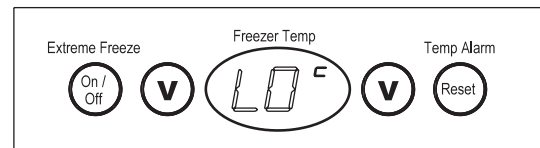
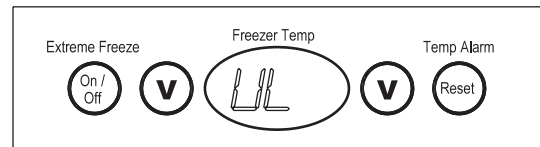

Figure 5
Figure 6
Press and hold the ALARM RESET key until the control panel beeps to activate or deactivate the Display Lockout feature which prevents the user from accidentally changing the temperature and extreme freeze settings. "LO^C" (LOCK) will be displayed for three (3) seconds indicating that the control panel is locked (see figure 5). Once in lockout when a key is pressed, "LO^C" will display for three (3) seconds. When the lockout is deactivated, "UL" (UNLOCK) will display for 1 second (see figure 6).